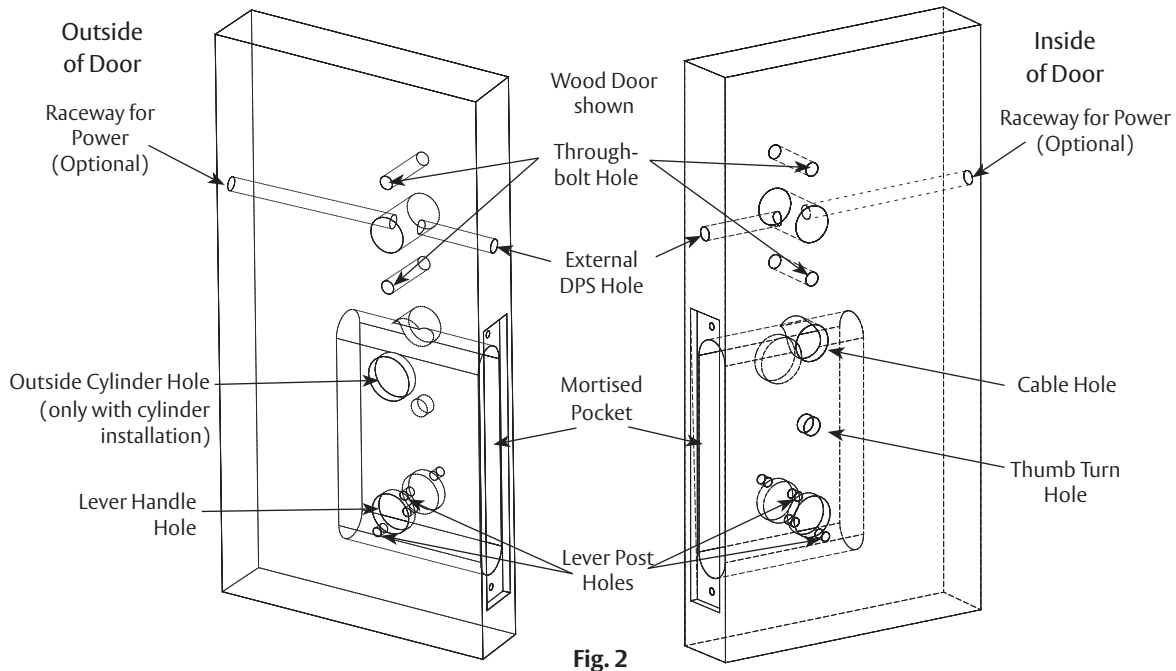

Fig. 2
- b. Prepare door (Figure 2) according to appropriate template: